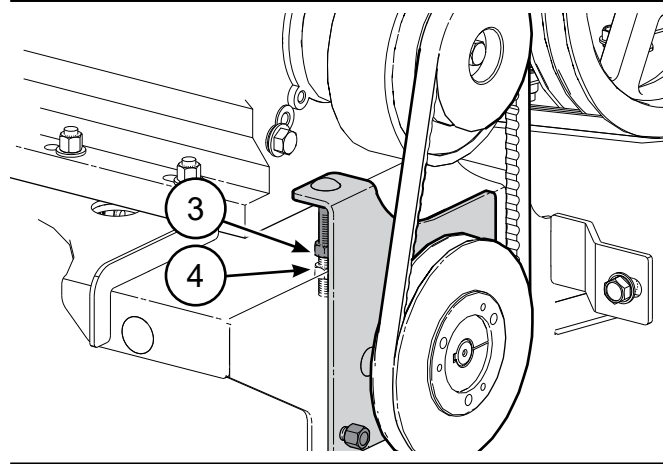

Fig. 60—Belt Tension Adjuster
1. With the belt installed, tighten the belt tension adjuster nut (item 4, Fig. 60) to remove the slack from the belt.